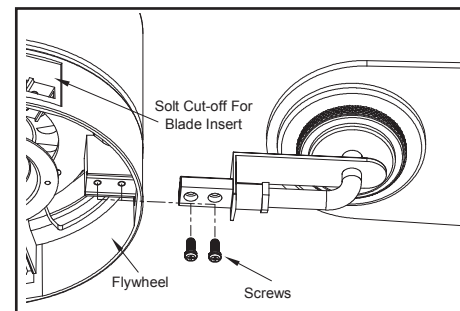

Figure 12
2. Insert a blade assembly to the slot cut-off in the center flywheel, align the two screw holes in the blade assembly with the screw holes in the flywheel and secure with the screws provided. Repeat for the remaining blade assemblies. (Figure 12)